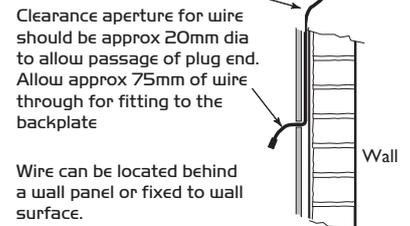

Figure 1.
b) Select a suitable location for the sensor and arrange the cable in position. Leave approx. 75mm of the cable free at the mounting point to ease the connection of the plug. (fig. 1).